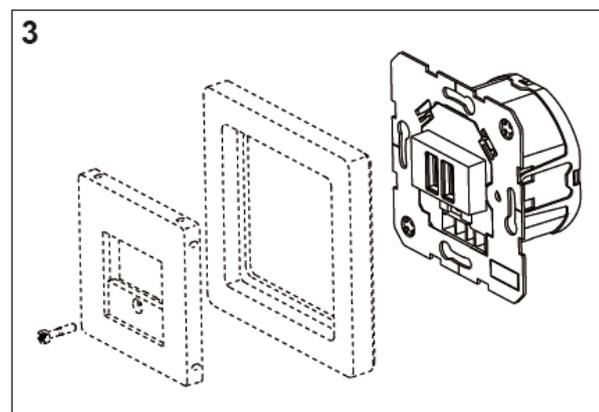

Figure 3
- Place frame over device with order no. 2600 .. and screw centre plate for TAE socket (accessory) (Figure 3) **or**: